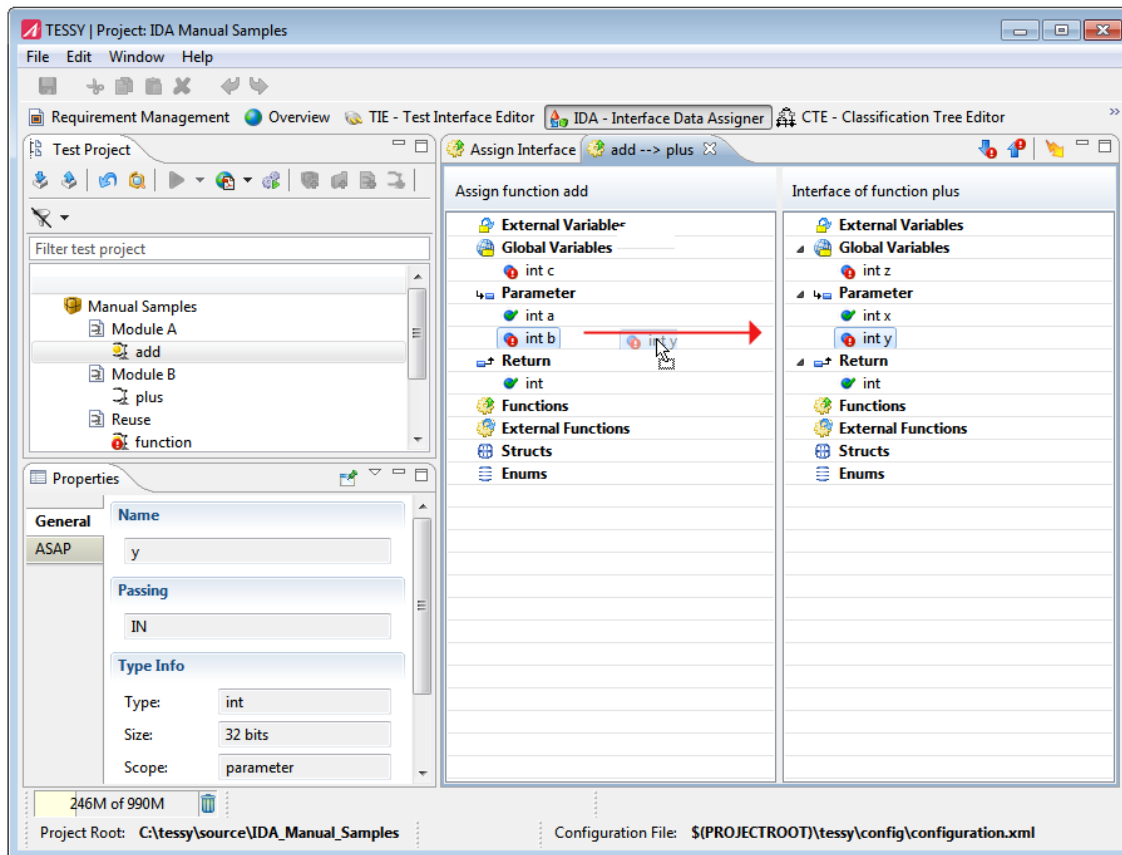

Figure 6.270: Use drag and drop in IDA
- Use the context menu or just drag and drop from the left side (see figure 6.270). The red exclamation mark turns to a green check .